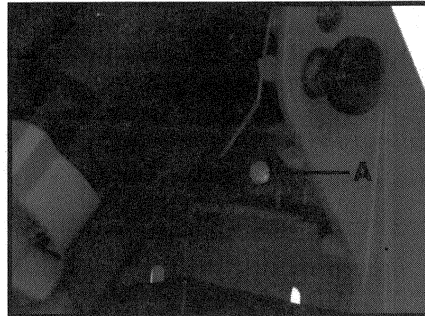

Fig. 5A
**NOTE:** The distance between the end of the workpiece and the cut slot is factory set at  $\frac{3}{4}$ ". This distance can be varied by adjusting the motor stop screw (A) Fig. 5A.